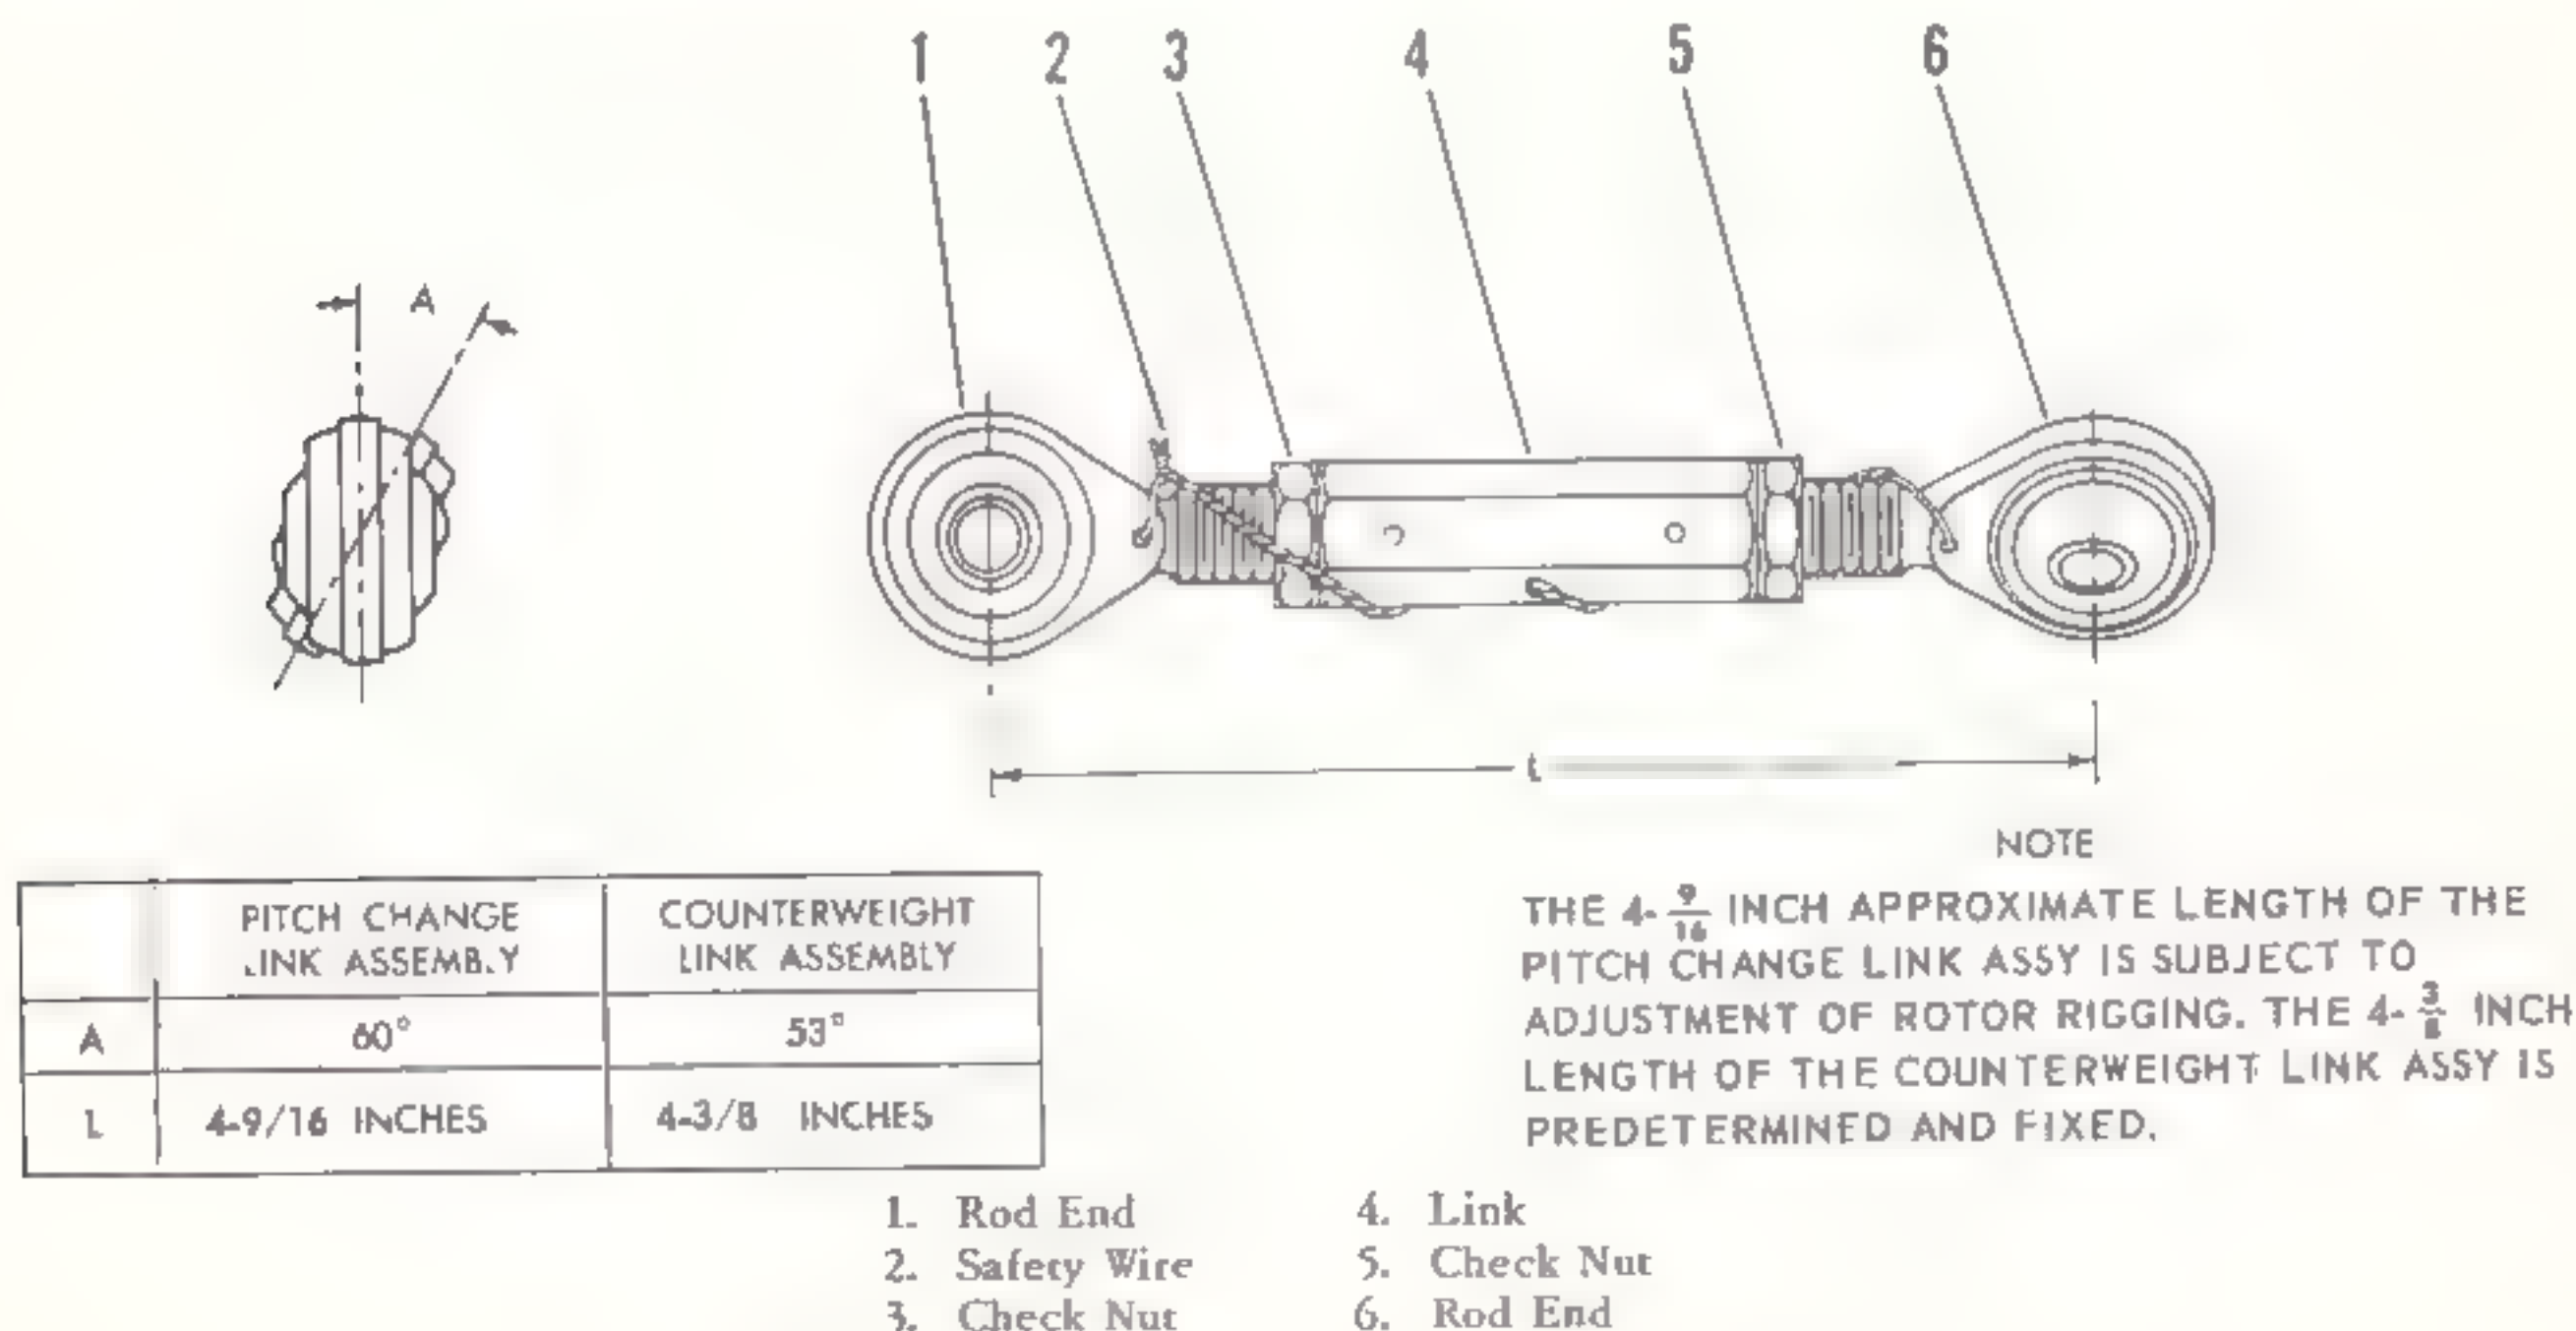

Figure 8-11. Pitch change link and counterweight link assembly
(2) Measure length of pitch change link assembly. (See figure 8-11.) The length should be approximately
4-9/16 inches with rod ends at 60 degrees from each other. (See figure 8-11.)
(13) Secure check nuts (3 and 5, figure 8-11) and secure rod ends (1 and 6) to link (4) with safety wire (2) on the pitch change link assemblies as shown in figure 8-11.
(2) Measure and adjust counterweight link assemblies if necessary. Adjust length of each counterweight link assembly to 4-3/8 inches with rod ends at 53 degrees from each other. (See figure 8-11.)
(3) Measure length of pitch change link assembly. (See figure 8-11.) The length should be approximately 4-9/16 inches with control rod ends at 60 degrees from each other. (See figure 8-11.)
(4) Move left rudder pedal fully forward until power piston bottoms internally in tail rotor servo. Check that mechanical stops are not hitting at this time.
(23) Secure check nuts (3 and 5, figure 8-11) and secure rod ends (1 and 6) to link (4) with safety
wire (2) on pitch change link assemblies and counterweight link assemblies as shown in figure 8-11.
(24) Remove blade restrainer assembly or wedges from tail rotor blade.